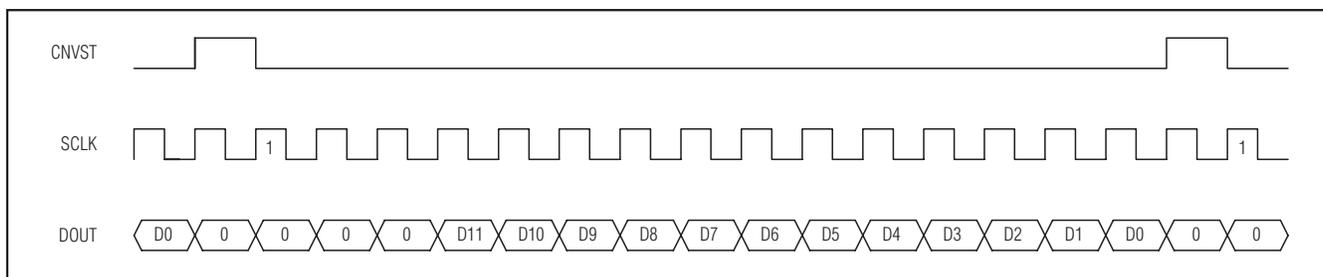
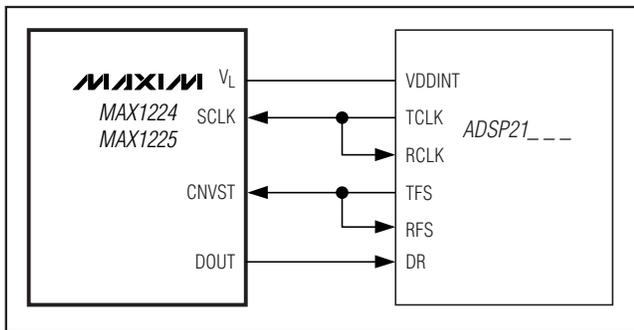

Figure 17. DSP Interface—Continuous Conversion
Figure 19. Interfacing to the ADSP21_ _ _
The MAX1224/MAX1225 can also be connected to the TMS320C54_ by using the data transmit (DX) pin to drive CNVST and the CLKX generated internally to drive SCLK. A pullup resistor is required on the CNVST signal to keep it high when DX goes high impedance and 0001hex should be written to the DXR continuously for continuous conversions. The power-down modes may be entered by writing 00FFhex to the DXR (see Figures 17 and 18).
The MAX1224/MAX1225 can be directly connected to the ADSP21_ _ _ family of DSPs from Analog Devices, Inc. Figure 19 shows the direct connection of the MAX1224/MAX1225 to the ADSP21_ _ _ . There are two modes of operation that can be programmed to interface with the MAX1224/MAX1225. For continuous conversions, idle CNVST low and pulse it high for one clock cycle during the LSB of the previous transmitted word. The ADSP21_ _ _ STCTL and SRCTL registers should be configured for early framing (LAFR = 0) and for an active-high frame (LTFS = 0, LRFS = 0) signal. In this mode, the data-independent frame-sync bit (DITFS = 1) can be selected to eliminate the need for writing to the transmit-data register more than once. For single conversions, idle CNVST high and pulse it low for the entire conversion. The ADSP21_ _ _ STCTL and SRCTL registers should be configured for late framing (LAFR = 1) and for an active-low frame (LTFS = 1, LRFS = 1) signal. This is also the best way to enter the power-down modes by setting the word length to 8 bits (SLEN = 1001). Connect the V_L pin to the ADSP21_ _ _ supply voltage when the MAX1224/MAX1225 are operating with a supply voltage higher than the DSP supply voltage (see Figures 17 and 18).